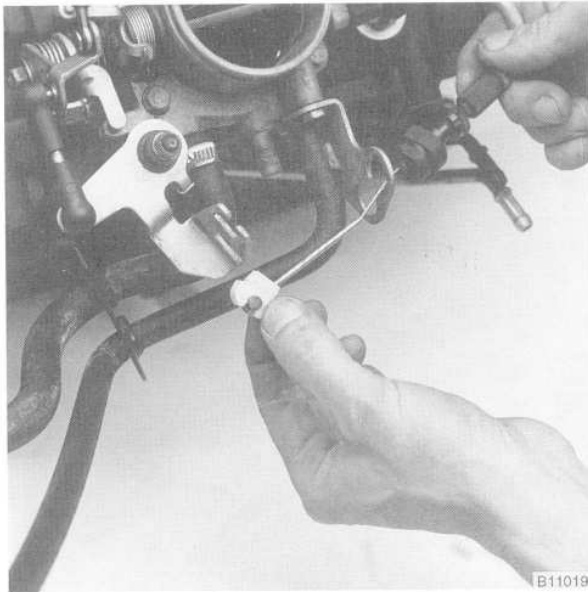

Fig. 13. Throttle cable being removed. Disconnect cable at lever and pull cable with grommet from bracket.
10. Disconnect the throttle cable and the cruise control cable from the throttle lever. Pull the cables from the cable bracket. See Fig. 13.